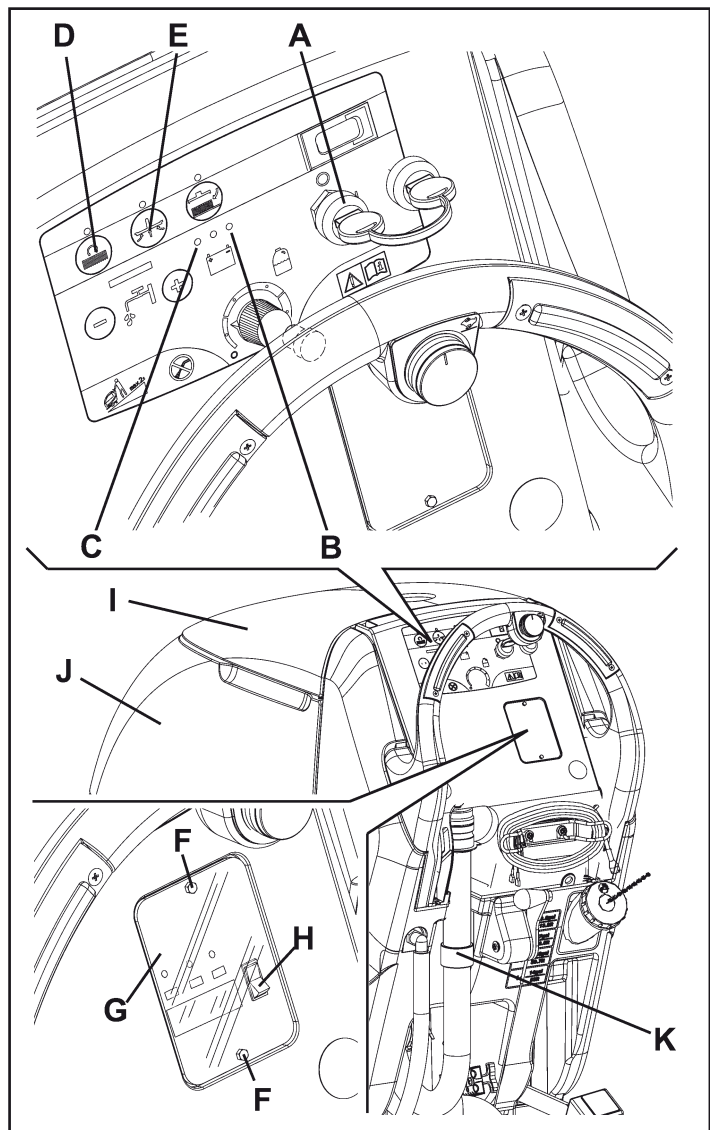

Figure 7
- Turn the ignition key (A, Fig. 7) to "I" and in the very first seconds of machine operation pay attention to the following:
- If the green warning light (B) is flashing, the machine is set to AGM.
- If the red warning light (C) is flashing, the machine is set to WET.
- Turn off the machine and turn the ignition key (A) to "0".
- Press and hold the switches (D) and (E) at the same time, then turn the ignition key (80) to "I".
- Continue to hold switches (D) and (E) until warning light (B) or (C) starts blinking.
- Immediately release the switches and press the middle switch (E) to toggle to the other setting. (this must be done while the light is blinking to change the setting). Cycle the key switch to check.